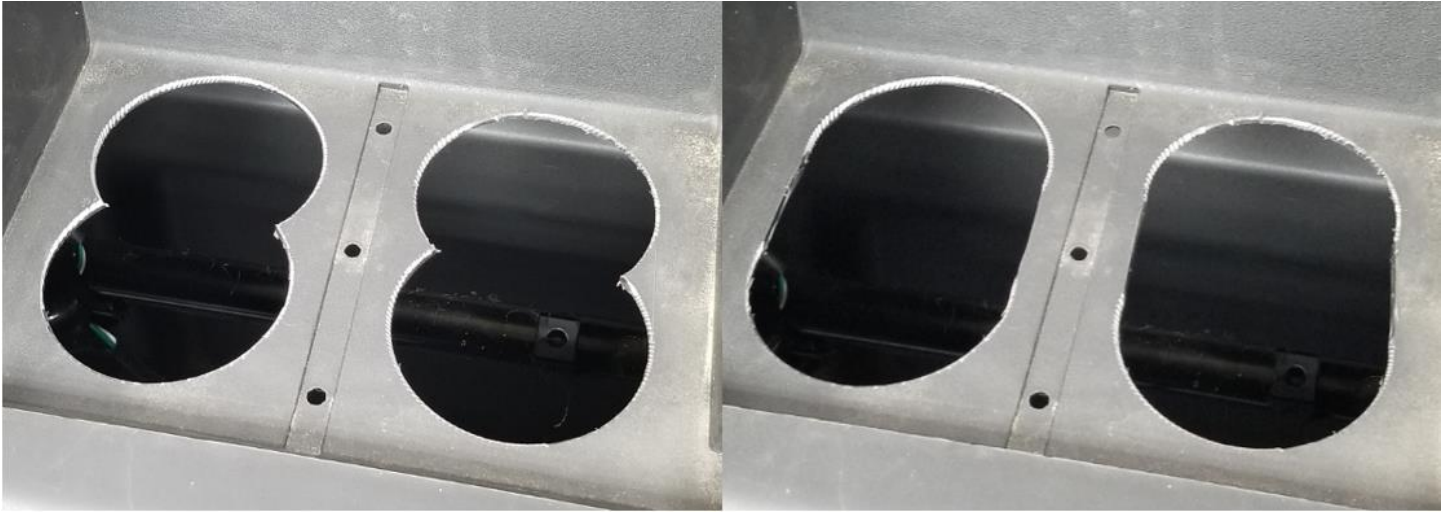

Figure 4
- Use a razor blade to cut straight lines between each pair of holes. This will result in two slotted holes as shown in Figure 4.